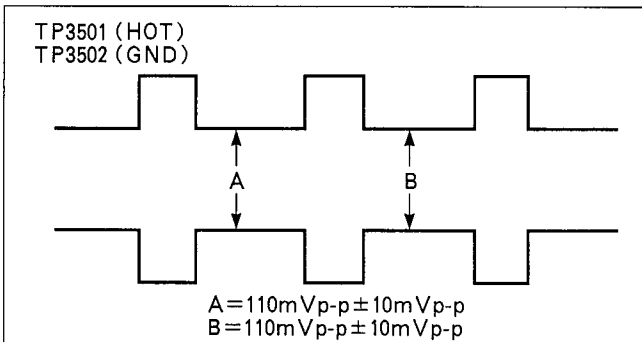

Figure E59
3. Connect a scope to TP41009 (HOT), TP41010 (GND) and adjust VR41015 and VR41016 so that the "A" and "B" levels become $150\text{mVp-p} \pm 10\text{mVp-p}$ as shown in Figure E59.